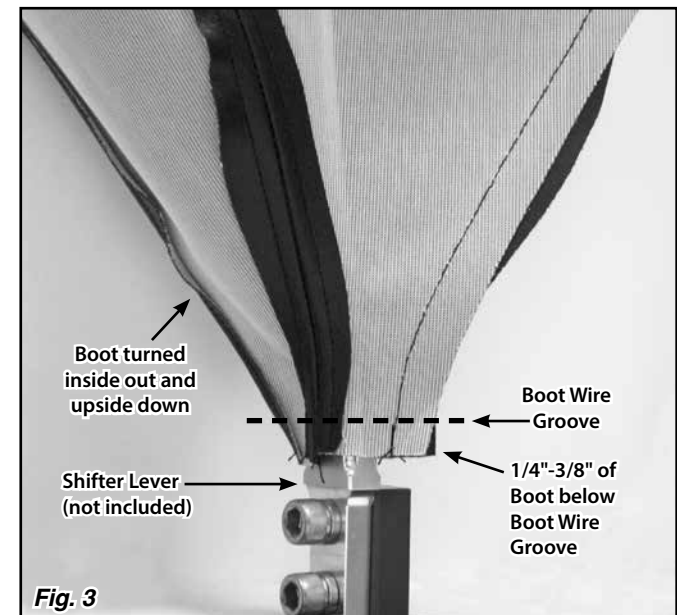

Fig. 3
**Step 3:** Turn the Boot inside out and upside down. Slide the small end of the Boot over the top end of the Shifter Lever, and down to the desired height on the Shifter Lever. If the Shifter Lever has a boot wire groove, place the Boot so that approximately 1/4" - 3/8" of the Boot is below the boot wire groove on the Shifter Lever. **Fig. 2 & Fig. 3**